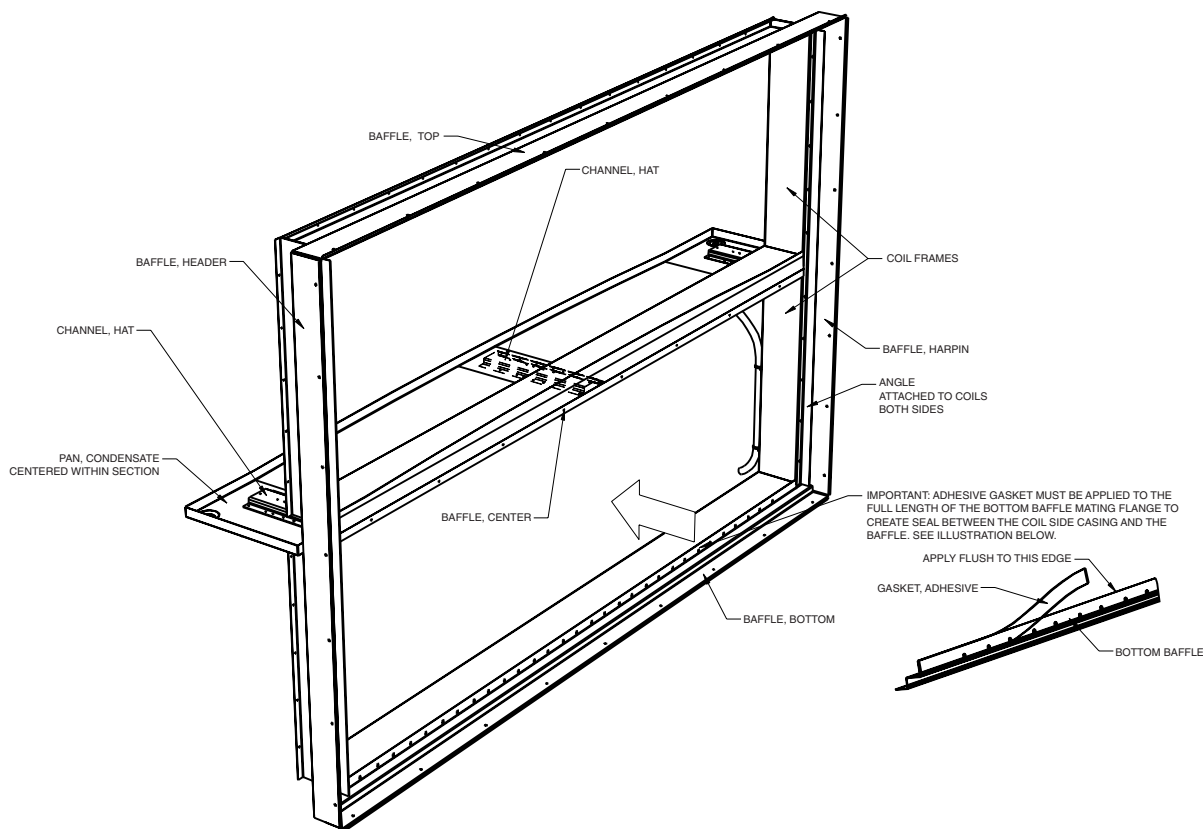

Fig. 86 — Apply Gasket
4. Remove the fastening screws of the uppermost coil from the upstream side. Note that the fastening screws pass through the vertical angle, baffles, and coil casing. See Fig 86. Removal of the fastening screws may require reaching through an opened damper assembly, reaching through a filter track after filters are removed, or removing a coil immediately upstream.
7. On the upstream side of the stacked coils, remove and set aside the center baffle spanning the two coils (see Fig.86).
12. Remove the fastening screws of the lowermost coil from the upstream side. Note that the fastening screws pass through the vertical angle, baffles, and coil casing. See Fig. 86. Removal of the fastening screws may require reaching through an opened damper assembly, reaching through a filter track after filters are removed, or removing a coil immediately upstream.
15. Inspect the adhesive backed gasket applied to the lower baffle, spanning the entire unit, on the surface that contacts the coil (see Fig. 86). If damaged, remove the remainder of the old gasket and replace.